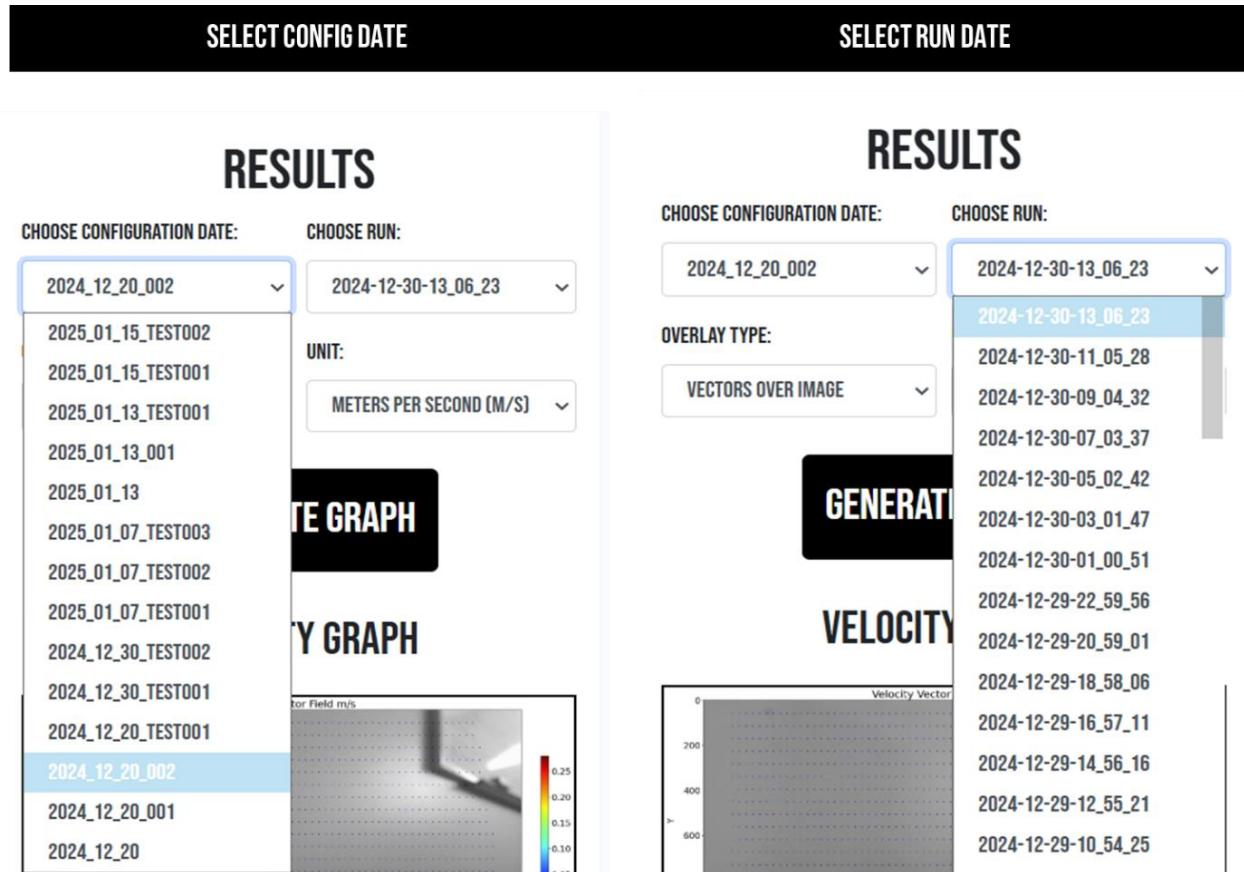

Figure 45. An example of how to select the configuration and PIV run to view its outputs.
- Data are organized by configuration date and run date – see Figure 45.